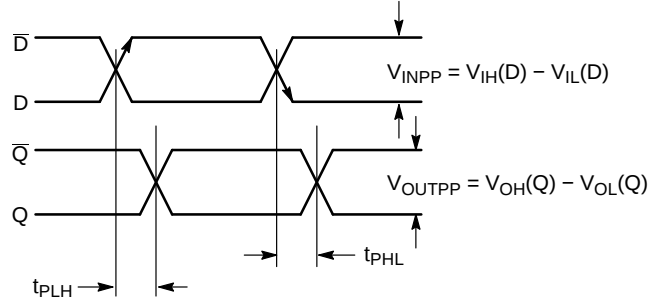

Figure 10. AC Reference Measurement
25. See Figure 10. $t_{\text{skew}} = |t_{PLH} - t_{PHL}|$ for a nominal 50% differential clock input waveform.